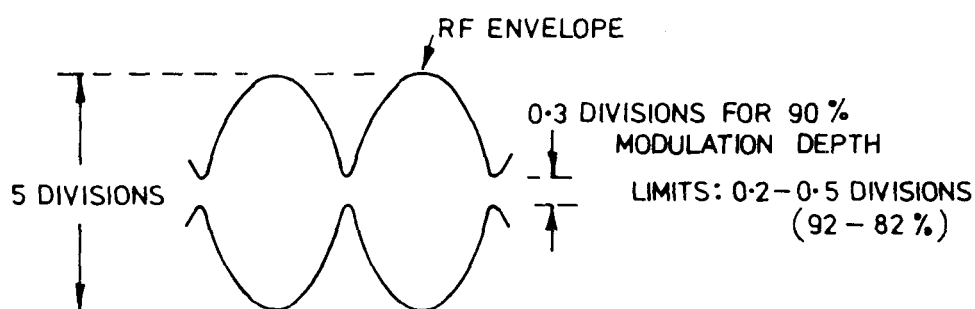

FIG 6.2 MODULATION DEPTH AS DISPLAYED ON CRO.
- (f) Set the TEST/OPERATE switch to OPERATE. Monitor the RF output of the transceiver, terminated in a 50Ω load, with a CRO, and select the AM mode (Selected automatically on 2182kHz channel). Connect TP4 to TP3 and adjust R14 for 90% modulation depth (see fig 6.2)
- (iii) Check that the RF modulation at the antenna socket is greater than 90% (see fig 6.2. para 6.3.18).